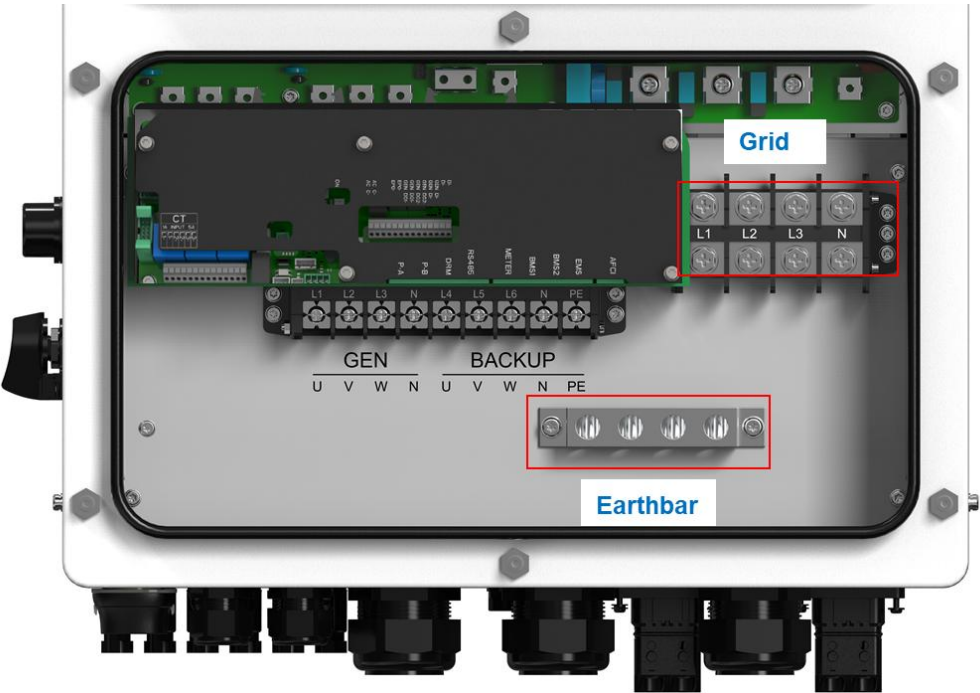

Figure 5-20 Connection of power grid
1. About local grid connection with inverter. Please refer to Figure 5-20 for the wiring procedure:
As shown in Figure 5-20, PrimePower has a grounding connection copper bar. The copper bar has a M6 hole and requires the customer to connect a ground cable to the ground point at the site.